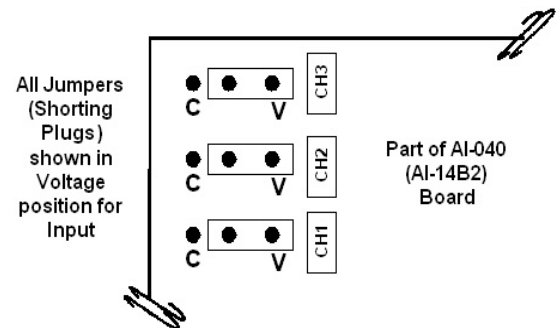

Figure 2. Voltage/Current Selection Jumpers
- a) Determine whether a voltage or current signal will be used for each of the channels of the AI-040 card. Set selection jumpers accordingly. See Figure 2.